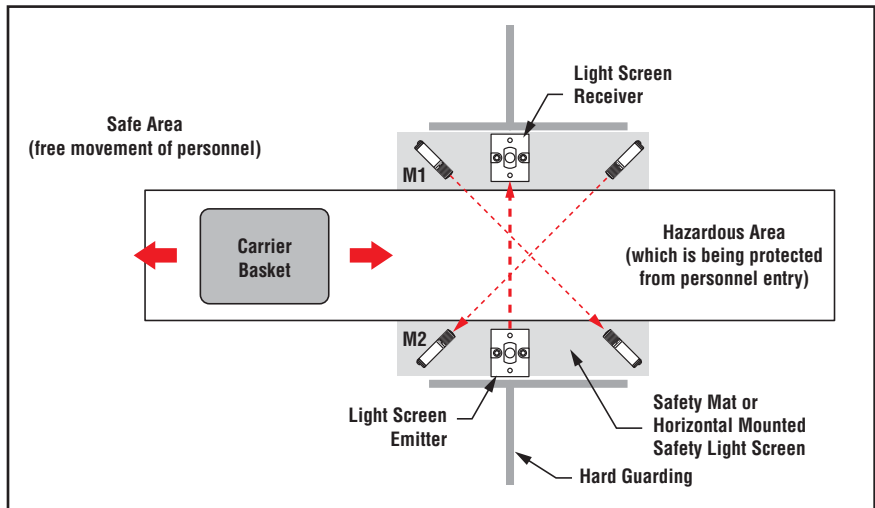

Figure B-1. “X”-Pattern Entry/Exit system using two pairs of opposed-mode photoelectric muting devices
(For example, "X"-pattern Entry/Exit System, see Figure B-1)
- **It must not be possible for an individual to block both photoelectric beams** (dashed diagonal lines in Figure B-1) **and initiate a mute condition.** Check the installation to verify that unintentional muting is not possible. The “crossing point” of the photoelectric beams must be located in the hazardous area and not be accessible to personnel (by reaching over, under, through, or around).